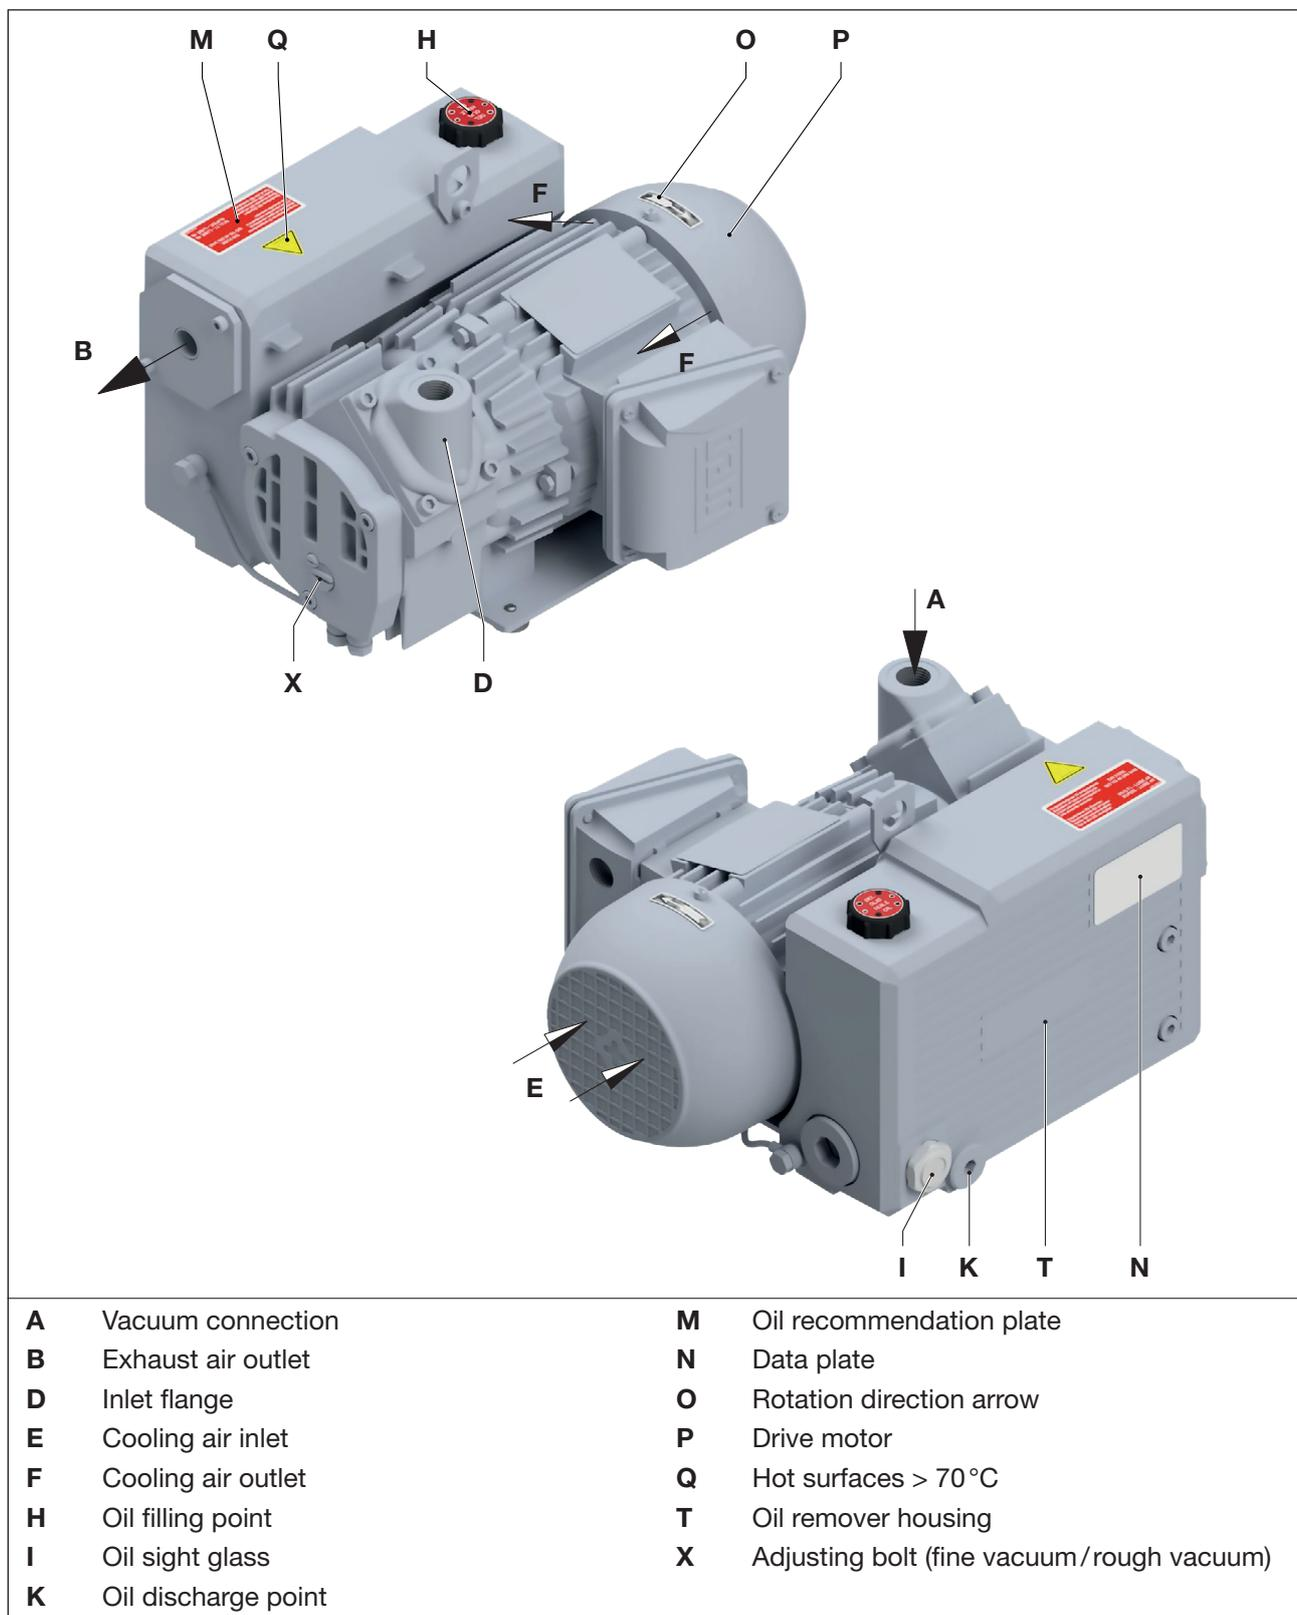

Fig. 2 Vacuum pump V- VGD 10 / 15
- Suction flange (Fig. 2/D), oil filling point (Fig. 2/H), oil sight glass (Fig. 2/I) and oil drain (Fig. 2/K) must be easily accessible.
The vacuum connection (Fig. 2/A) is located on the suction flange (Fig. 2/D).
- Remove the blind plugs on the suction connection (Fig. 2/A) and exhaust air outlet (Fig. 2/B).
- Connect the pipes with the vacuum connection (Fig. 2/A).
- The exhausted air can be blown out through the exhaust air outlet (Fig. 2/B) or conducted away using a hose or pipeline.
- Check the lubricating oil level through the oil sight glass (Fig. 2/I) and top up, if necessary.
- Fill the lubricating oil (for suitable types see chapter 7.6 "Lubricating Oil") via the oil filling point (Fig. 2/H) up to the upper edge of the sight glass (Fig. 2/I).